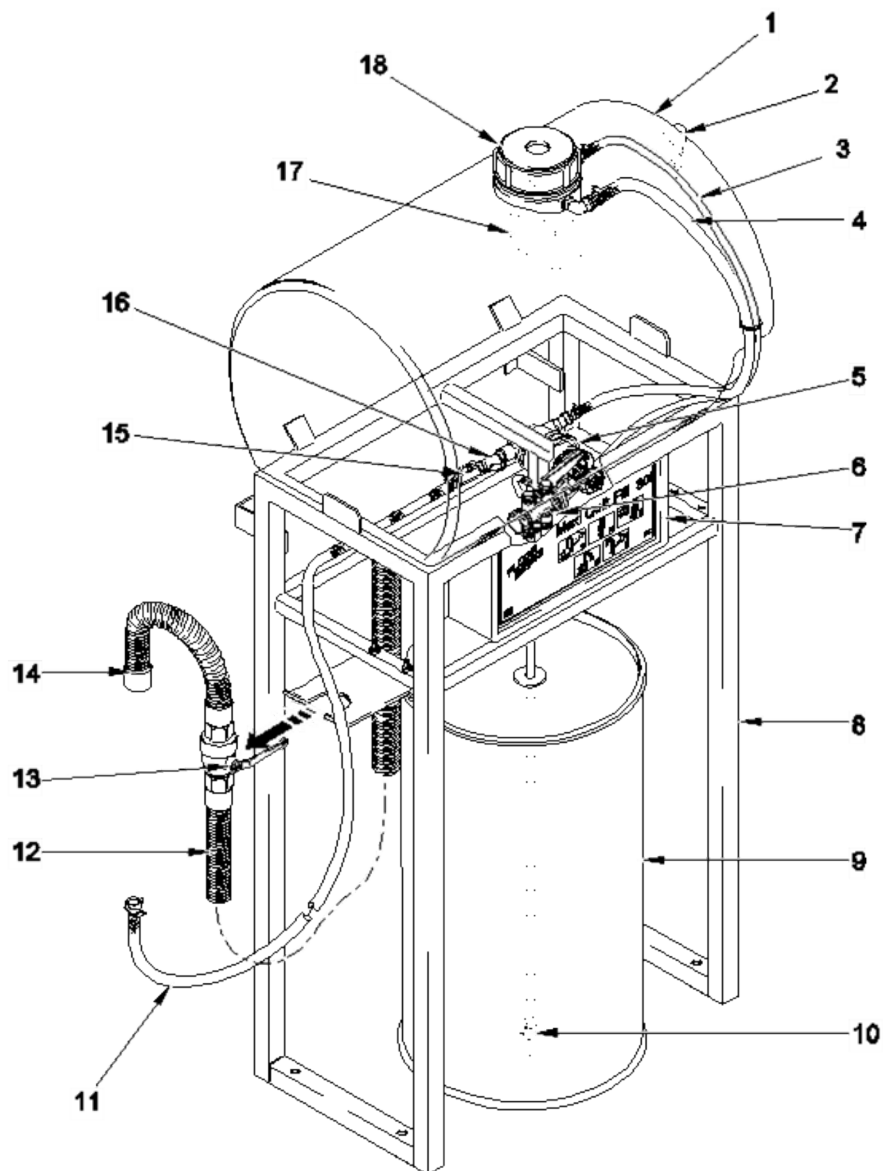
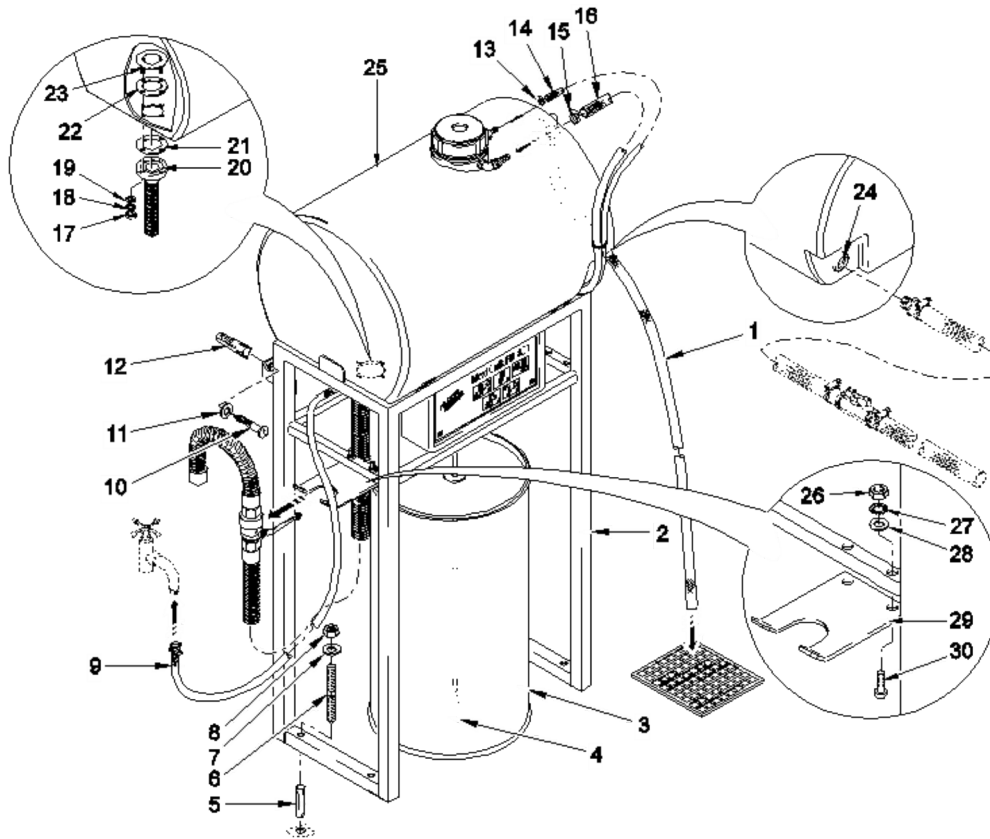

Fig. 3: Assembly MAXI QUICK FILL
Fig. 4: Overview: mounting and hose connections
If the filling level in the storage tank (↪ *Chapter 4 'Assembly' on page 22, Fig. 3, pos. 1*) drops below this level, cleaning agent is sucked in from the product storage container (Fig. 3, pos. 9) and dosed into the tank by the dosing pump (Fig. 3, pos. 6) via its own inlet in proportion to the quantity. At the same time, fresh water is supplied to the storage tank.
The dosing pump is driven by the water motor (Fig. 3, pos. 5).
As soon as the filling level is reached, the filling valve (Fig. 3, pos. 17) within the tank closes and the product supply is shut off.
The dispensing action is started, as soon as the red lever (Fig. 3, pos. 13) of the filling cock is turned to the ON-position.
3. ➤ Insert anchors / dowels (☞ *Chapter 5.3 'Connections' on page 24, Fig. 4, pos. 12*) into the drilling holes of wall.
4. ➤ Insert the cartridges (Fig. 4, pos. 5) to drilling holes in the floor and insert threaded bolts (Fig. 4, Pos. 6).
5. ➤ Attach the rack to the floor by using washers (Fig. 4, pos. 8) and nuts (Fig. 4, pos. 7) after the prescribed dry-out time has expired.
6. ➤ Attach the rack to the wall by using screws (Fig. 4, pos. 10) and washers (Fig. 4, pos. 11).
2. ➤ Unscrew the four nuts (☞ *Chapter 5.3 'Connections' on page 24, Fig. 4, pos. 17*) with lock washers (Fig. 4, pos. 18) and washers (Fig. 4, pos. 19) from the threaded bolts of the counter ring (Fig. 4, pos. 24).
3. ➤ Attach flange (Fig. 4, pos. 20) of dispensing hose together with seal ring (Fig. 4, pos. 21) to the counter ring (Fig. 4, pos. 23) using it's nuts and washers.
3. ➤ Connect the water feed line (☞ *Chapter 5.3 'Connections' on page 24, Fig. 4, pos. 16*) to the tank using hose clamp (Fig. 4, pos. 15), (according to installation kit).
4. ➤ Connect the product feed line (Fig. 4, pos. 14) to the tank using hose clamp (Fig. 4, pos. 13), (according to installation kit).
5. ➤ Lead the end of the safety overflow hose (Fig. 4, pos. 1) to an appropriate drainage.
1. ➤ Remove the screw plug (☞ *Chapter 5.3 'Connections' on page 24, Fig. 4, pos. 24*).
2. ➤ Seal the connection of the filling hose with Teflon tape and screw it into the tank wall as described in Fig. 4.
1. ➤ Remove cover plate (☞ *Chapter 4 'Assembly' on page 22*, Fig. 3, pos. 7) from support rack (Fig. 3, pos. 8) and remove product feed hose from pump (Fig. 4, pos. 6).
2. ➤ Carefully unscrew hose stem (Fig. 3, pos. 3) from the product feed line connection of the pump.
3. ➤ Seal the connector of the 3/2-way ball cock (Fig. 3, pos. 4) using teflon tape and install it to the product feed line connection of the pump.
4. ➤ Shorten the product feed hoses (Fig. 3, pos. 5 and Fig. 3, pos. 6), if required, and install them to both angled connectors of the ball cock.
- 1.** ➤ Close the shut-off cock (Fig. 3, pos. 1) at the water motor.
- 3.** ➤ Turn the 3/2 way ball cock (Fig. 3, pos. 4) from pos. A (horizontal) to pos. B (vertical).